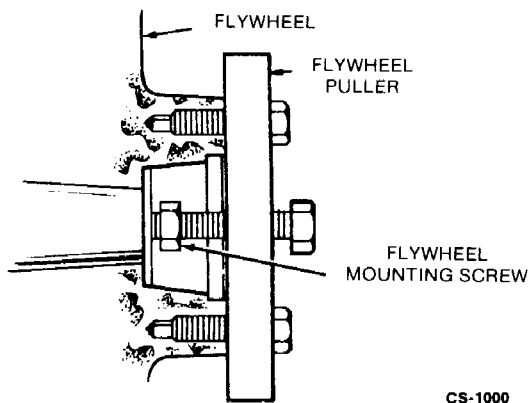

FIGURE 33. BLOWER WHEEL PULLEY
2. Install a puller bar on the flywheel as shown in Figure 33.